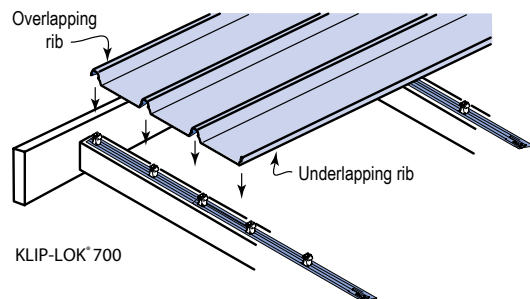

Figure 5
9. Engage the sheet with clips using vertical foot pressure on all the ribs over each clip (Refer figure 5).
previous sheet and the other foot applying vertical pressure to the top of the interlocking ribs at regular intervals. It is important that you don't walk in the unsupported pan besides the overlap. A rubber mallet may help engagement of laps on long spans (Refer figure 5).